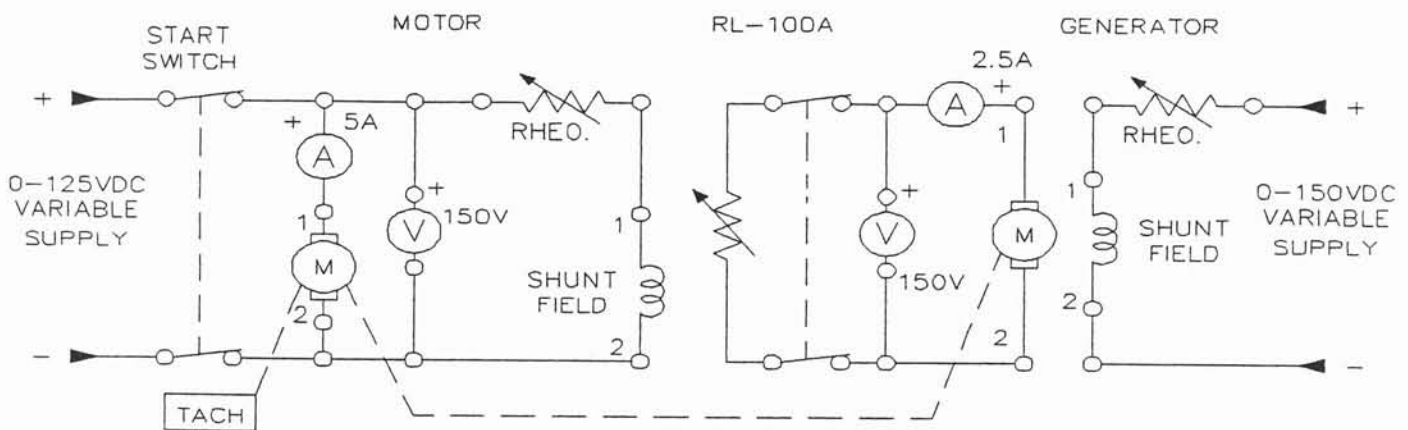

Figure 18-1
- Step 4. Connect the motor as shown in Figure 18-1. Note that this is a shunt motor connection. Turn the motor's field rheostat fully counterclockwise to its minimum resistance position.
- Step 6. Connect the dynamometer as shown in Figure 18-1. Note that this is a separately excited generator connection. Turn the dynamometer's field rheostat knob fully counterclockwise to its minimum resistance position.